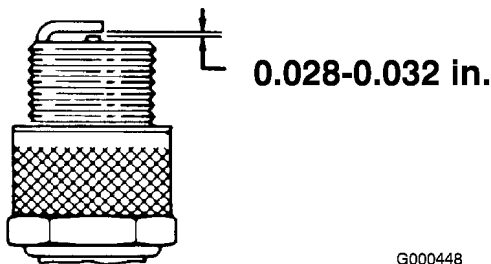

Figure 26
3. Set air gap at 0.028-0.032 inch (Figure 26). Install correctly gapped spark plug and tighten firmly to 17 ft.-lb.